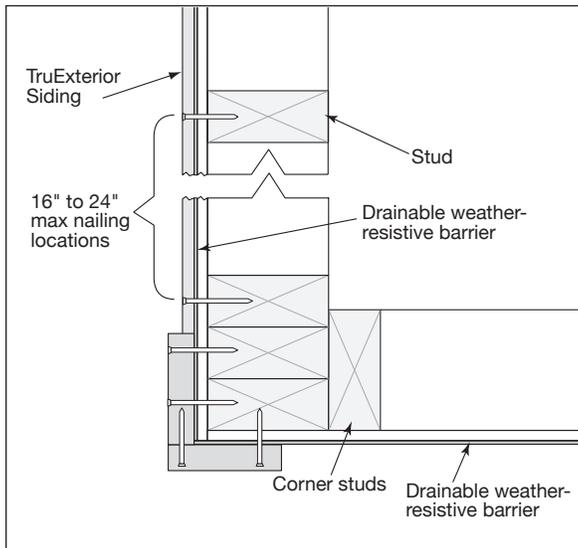

Fig. 10a
- Ensure that the nails penetrate the framing and the nails of the longer trim piece penetrate the shorter trim piece at the corner (**Fig. 10a**)